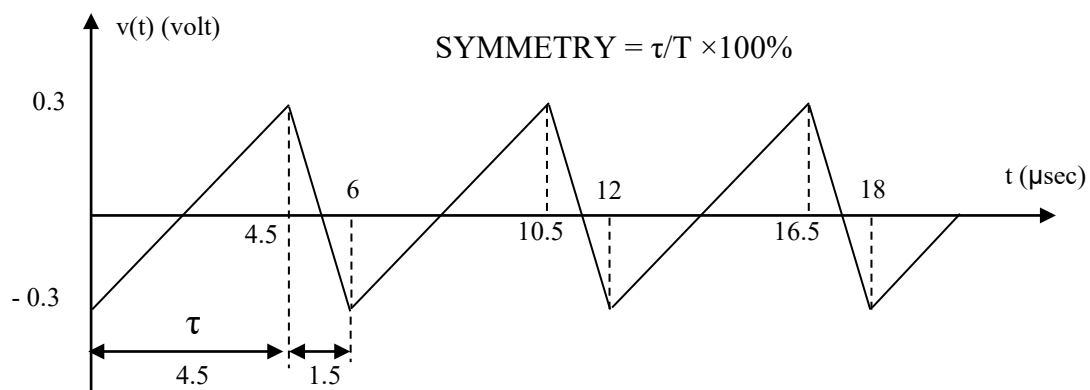

Figure E1.9 Sawtooth waveform
C. Generate and display a sawtooth wave shown in Figure E1.9.